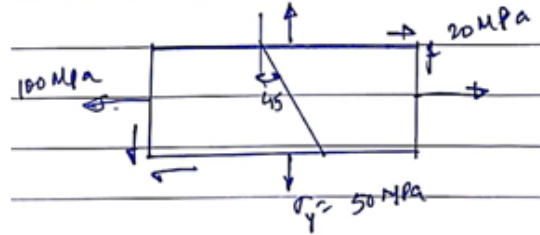

Figure 4
- (b) At point in a stressed body, the stresses act as shown in Figure 4. Determine the values of normal and tangential stresses on plane inclined at  $45^\circ$  with vertical. [7M]